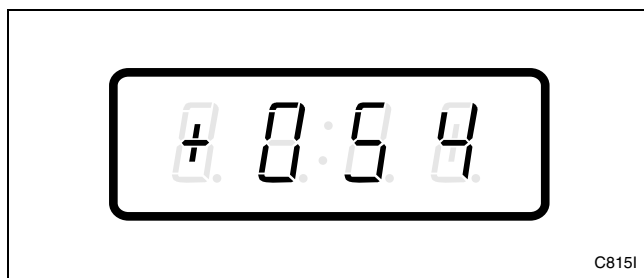

Figure 193
3. Press the DELICATES (+) or the COLD (-) keypad to scroll through the programmable options until “+054” appears in the VFD. Refer to *Figure 193*.